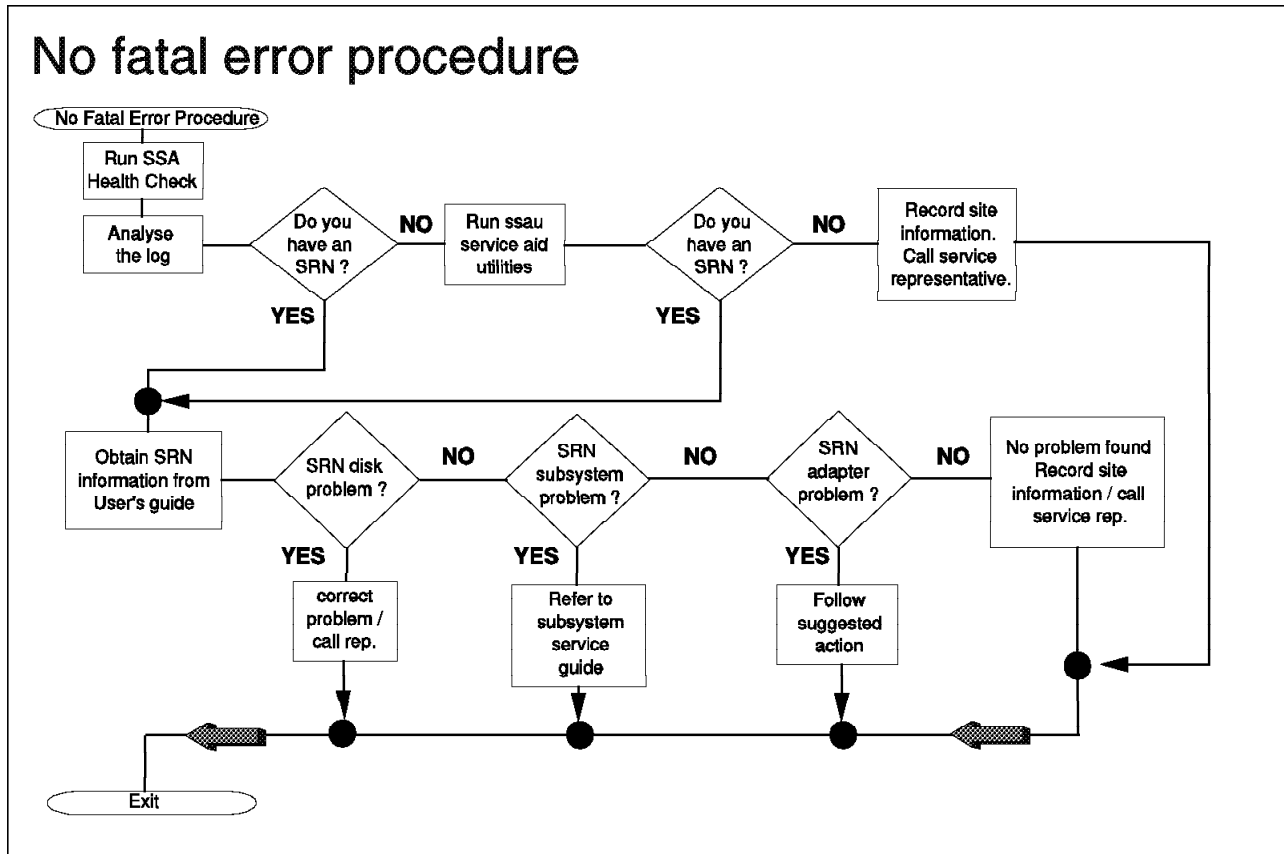

Figure 128. Run this Procedure if You Have Not Had a Fatal Adapter Error
**No fatal error procedure:** The flow chart, Figure 128, is a representation of the procedure you take to associate the problem with a specific device.